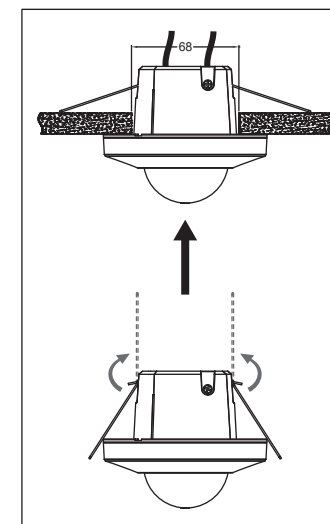

FIG.5
4. Raise the two spring clips, and insert the detector into the drilled hole on ceiling (See FIG.5)